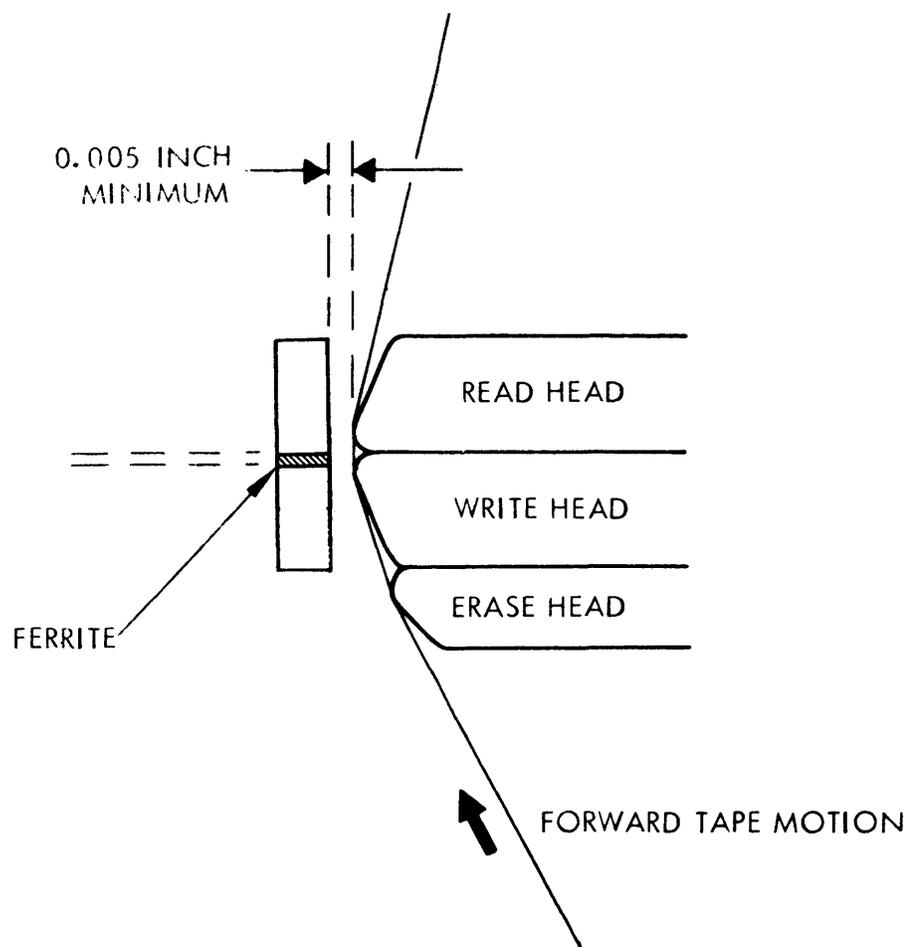

Figure 6-9. Flux Gate Adjustment
- (12) Partially loosen the screws which secure the flux gate assembly. Care should be taken to ensure that the flux gate spring does not move the assembly.
- (13) Place a white card (e. g. , business card) between the flux gate and the magnetic head and press the flux gate assembly lightly against the head.
- (14) Figure 6-9 illustrates the correct relationship between the magnetic head and the flux gate. Nominally, the correct position of the flux gate is with the center of the ferrite level with the junction between the read and write heads.